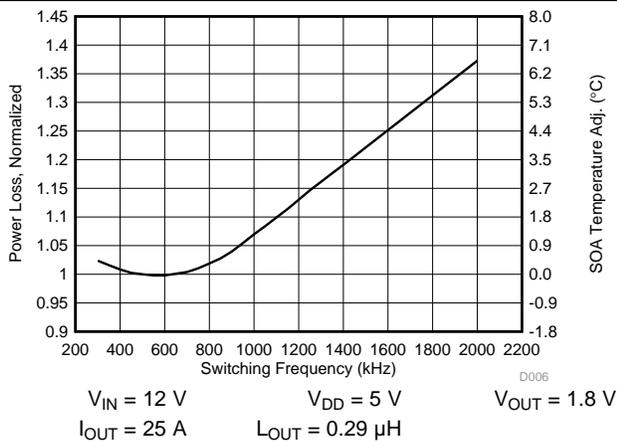

Figure 8. Normalized Power Loss vs Frequency
- Normalized Power Loss for switching frequency \approx 1.02 (Figure 8)
- SOA adjustment for switching frequency \approx 0.3°C (Figure 8)